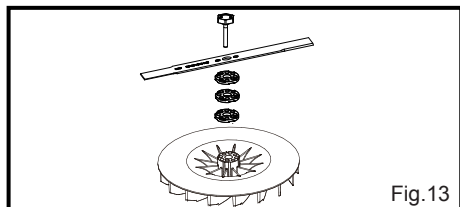

Fig.13
Blade Maintenance (See Fig. 13)
- Wear sturdy gloves and hold the blade firmly. Loosen the bolt with the spanner provided (Fig. 13).